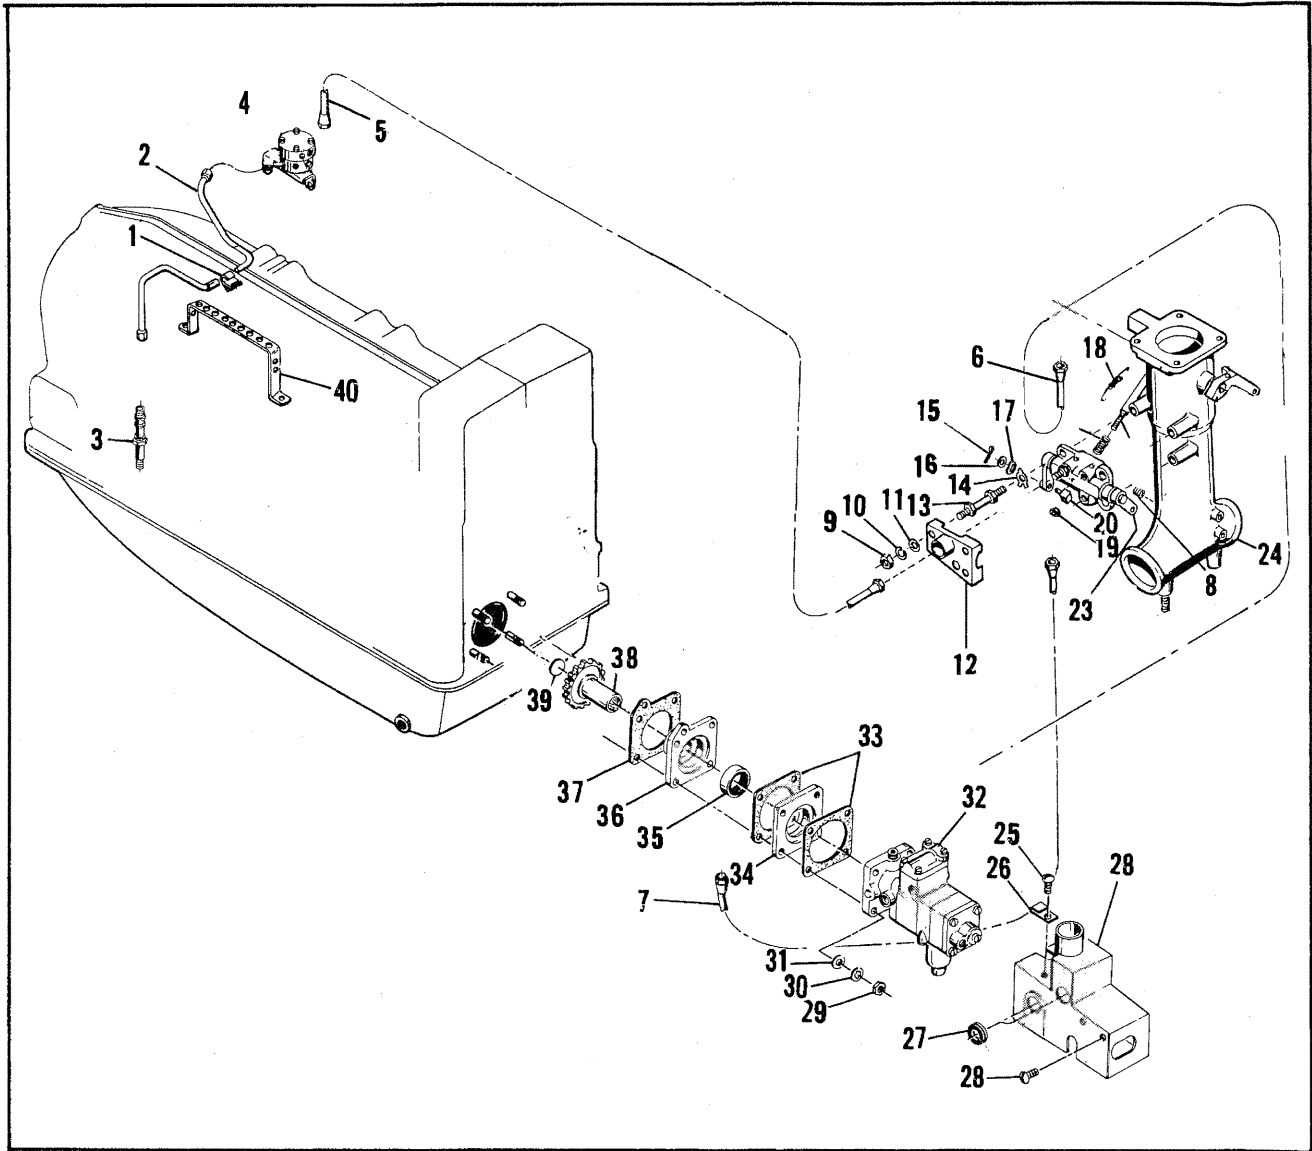

FIGURE 4-7. FUEL INJECTION SYSTEM, TS10-520-C, G & H.
**4-15. FUEL INJECTION SYSTEM, TSIO-520-C, G & H (See Figure 4-7).**
a. Disconnect six fuel discharge tubes (2) from manifold valve (4) and nozzles (3). Compress spring legs of each clamp (1), and remove tubes and clamps. Disconnect hose assembly (5) from manifold valve and control unit (23). Remove nozzles (3) and store in a clean container.
b. Disconnect hose assemblies (6 and 7) from fuel pump (32) and control unit (23), remove hose assemblies.
c. Remove shroud attaching parts (9,10,11) and remove shroud (12). Remove spring (18), two sets of cotter pins (15) and washers (16 and 17). Remove link rod assembly (19 thru 22). Remove bolts (13), tab washers (14) and separate fuel control from throttle body (24).
d. Remove attaching parts (29,30,31) and remove fuel pump (32) and shroud assembly (28) as a unit. Remove screw (25) and nut (26) and separate shroud from fuel pump. Remove gasket (33), insulator (34), gasket (33), adapter assembly (35,36) and gasket (37) from crankcase studs. Remove fuel pump drive gear (38) and plug (39) from crankcase cavity.
- a. On the 1-3-5 crankcase, remove four sets of attaching parts (1,2,3), cover (4) and gasket (5).
- b. Remove three sets of attaching parts (6,7,8), one set of attaching parts (9,10,11), bracket (33, Figure 4-7), adapter (12) and gasket (13). On the permold engine, remove the external oil filter bracket. If the AC filter is used, the Red Seal filter does not require bracketing. With the aid of an arbor press, remove bushing (14) and seal (15) from adapter.
- c. Remove magneto and accessory drive gear and sleeve assembly (16,17), magneto drive coupling bushings (19) and retainer (18).